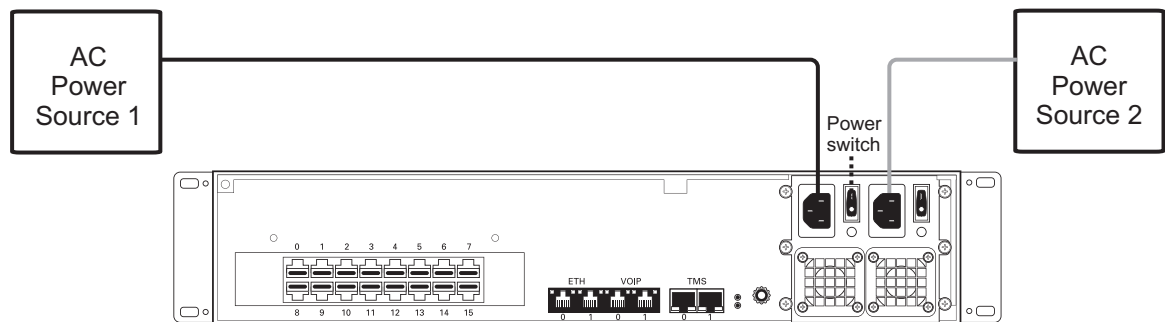

Figure 2.8 3200 Series Gateway AC Power Connection
1. Connect an AC power cable between the AC connector of the TMG3200 and an AC supply. See figure 2.8 on page 25.
Note If the 3200 series gateway features a second power supply and it is not connected to an AC power source, press the green button located at the rear of the unit to disable the audible alarm. See figure 2.8 on page 25.